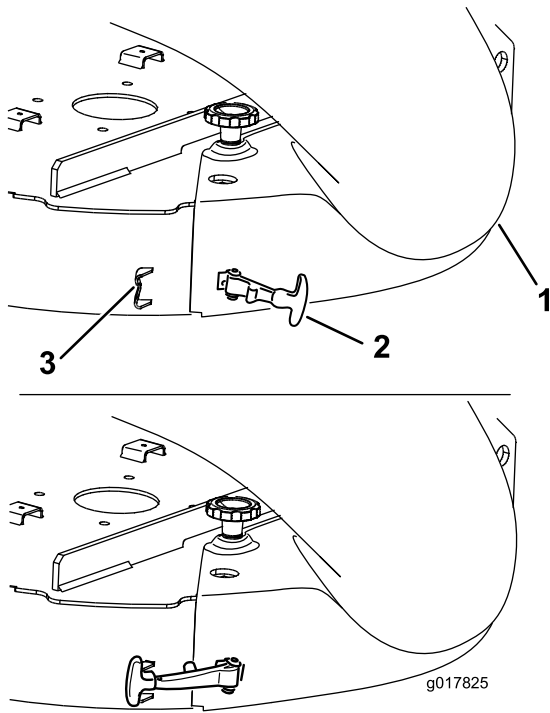

Figure 22
- Hook the flexible latch on the chute to the retaining clasp welded on the mower deck to the rear of the opening (Figure 22).